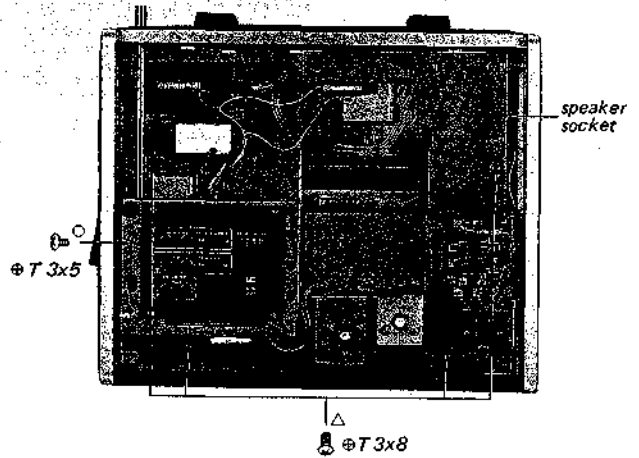

Fig. 2-3
5. Remove the four screws marked  $\Delta$  which fasten the front panel to the chassis in Fig. 2-3.
7. Remove the speaker socket as shown in Fig. 2-3.